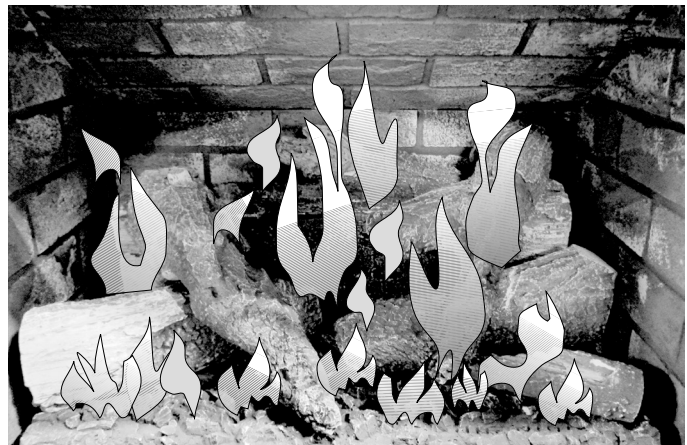

Figure 15.3. Front and Rear Flame Pattern
2. Allow the stove to burn for 30 minutes on the HIGH setting, observing the flame continuously. If the flame appears weak, slow, or sooty, increase the air shutter opening in 1/16" increments until the desired flame picture is achieved. Fig. 15.3